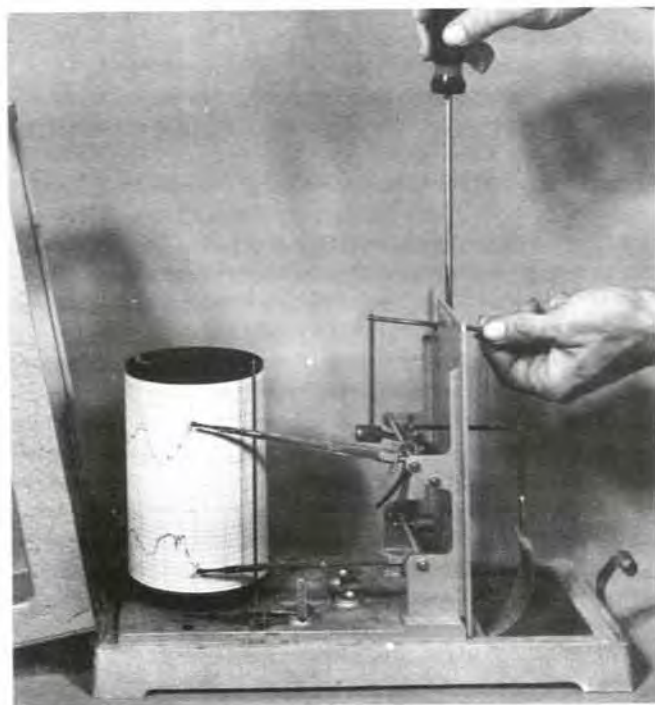

Figure 30.15—Adjusting the magnification bar on a Belfort hygrothermograph.
2. Observe the difference between the psychrometer humidity value and that indicated by the pen (C) on the hygrothermograph chart.
3. Draw a pencil line on the magnification bar (I), at the edge of the swivel hub (J). This will serve as a reference or starting point for the ensuing trials.
4. Loosen the swivel hub setscrew that holds the magnification bar in place (fig. 30.15).
7. Check the zero setting, which has probably been altered by the range adjustment. Adjust the pen with thumbscrew (H) to agree with the psychrometer humidity value (step 1).